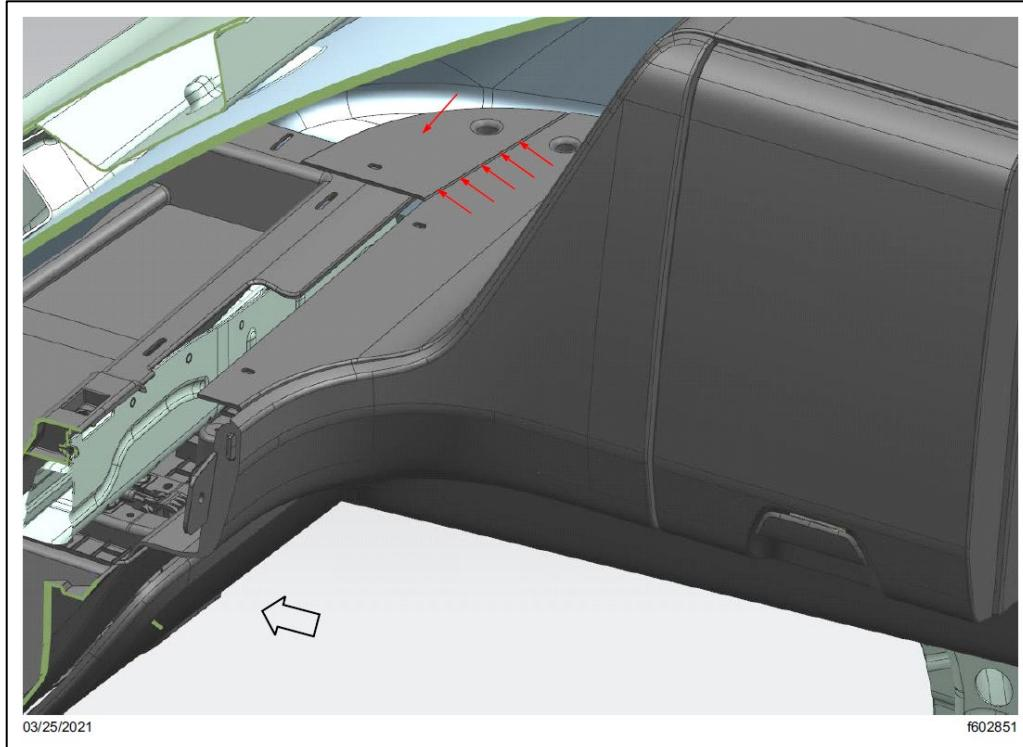

Fig. 58, Positioning the Closeout Panel
12.1. Position the cabinet closeout panel, in its installed position, over the storage shelf flanges. See Fig. 58.